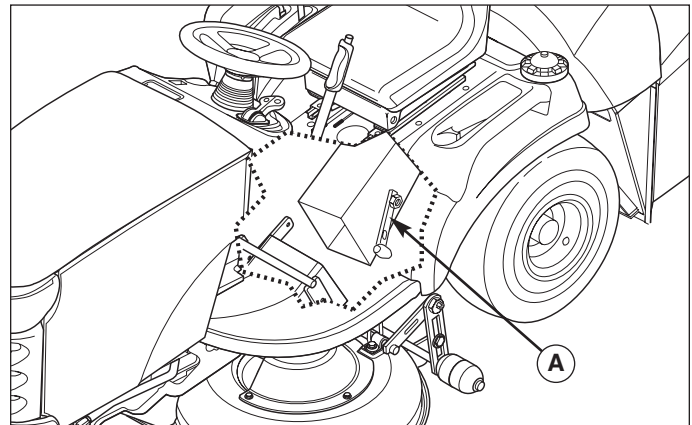

Figure 5. Remove Lower Discharge Tube
2. Remove the lower discharge tube (A, Figure 5).